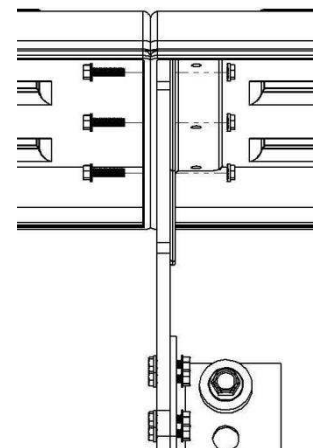

Figure 7
D. Install center bracket as close to where the two fenders join together as possible (Figure 7).